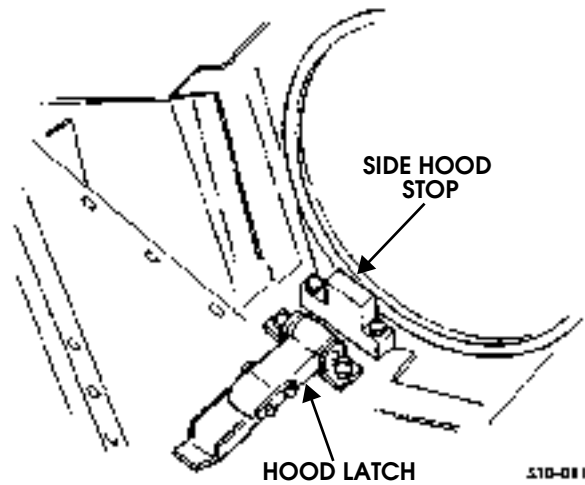

Figure 10-88: Hood Latch and Stop Location
8. Lubricate all hood stops, hinges, and guide brackets. Latch hood (Figure 10-88).